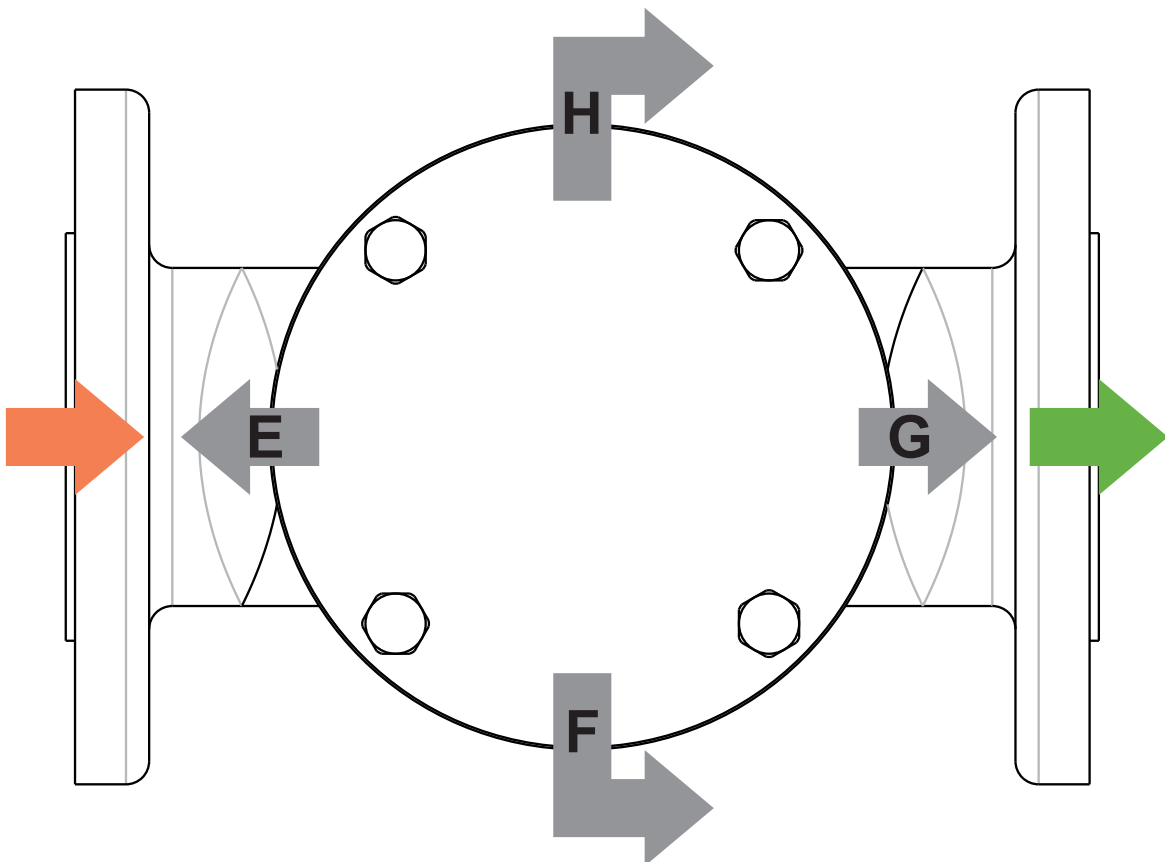

Figure 9: S26 Sense Line Location for 1-2" Constructions.
Figure 9 below indicates the position of the sense line for the 1-2" S26. Please specify desired sense line positions or the standard position (F) will be assumed.